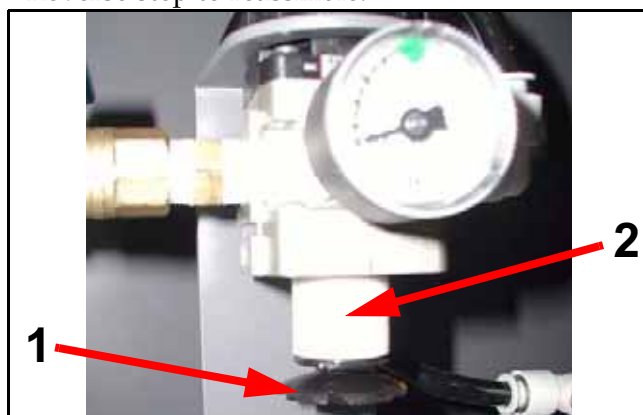

Figure 6-23. Removing Filter Element
- 4 Unscrew baffle (1 in Figure 6-23) and pull filter element (2) off of filter body.